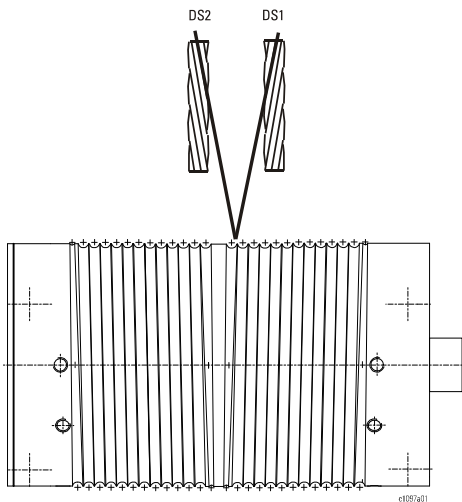

Fig. 43
- The direction of lay of the wire ropes makes a V-pattern (see Fig. 43)